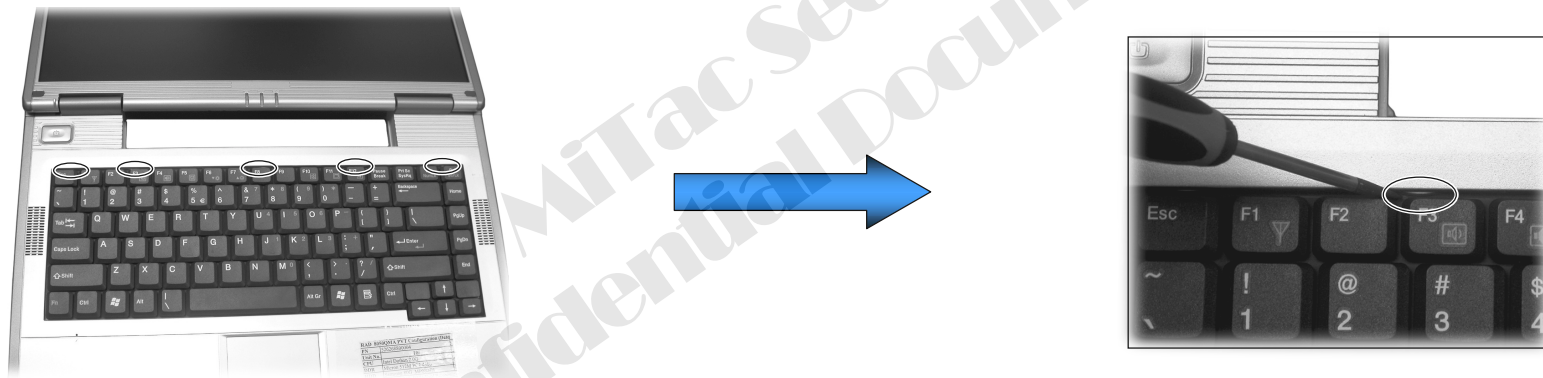

Figure 2-2 Loosen the five latches
3. Loosen the five latches locking the keyboard. (Figure 2-2)